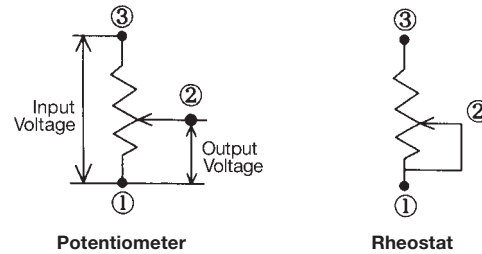

Figure 3
**4. Trimmer Applications.** Normally, as shown in *Figure 3*, a trimmer may be used in a circuit as a potentiometer (three-terminal voltage divider) or as a rheostat (two-terminal variable resistor where all the current passes through the wiper). Wiper current, therefore, is especially important in rheostat applications. The potentiometer circuit